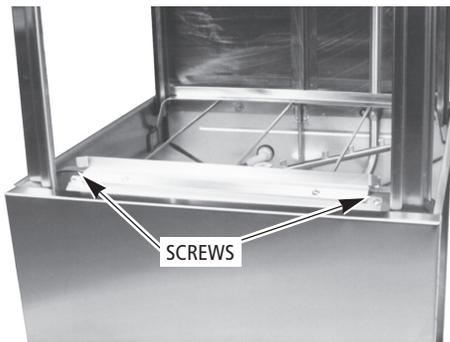

Figure 2
2. Remove the two screws and nuts at the outer edges of the splash guard (*Figure 2*).